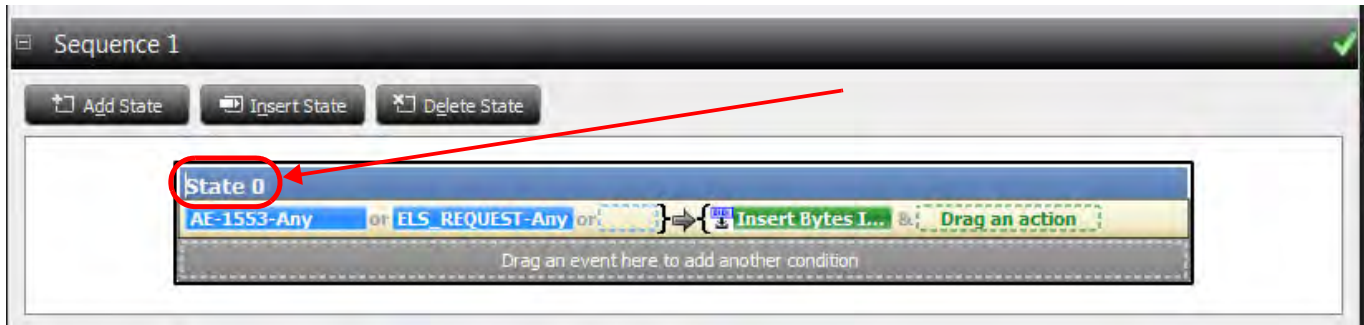

Figure 6.31: Edit a State Label: Step 2
2. Select the **Edit State Label**. The State Label slides over to the left of the blue box where you can edit it (Figure 6.31).